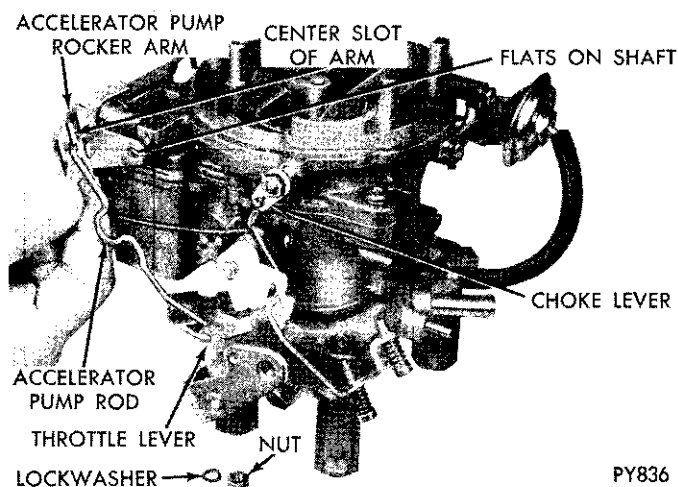

Fig. 2—Removing or Installing Accelerator Pump Rocker Arm
(2) Remove nut and washer attaching accelerator pump rocker arm to accelerator pump shaft. Remove arm from flats on pump shaft, then disengage accelerator pump rod from center slot in arm and from hole in throttle lever. (Fig. 2).